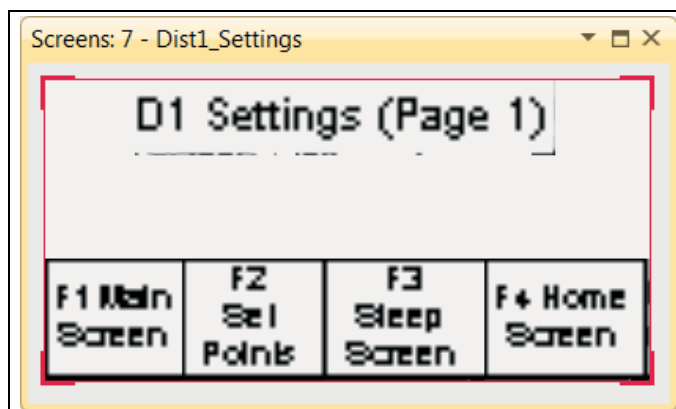

Figure 5S
5. After pressing **F3**, the screen will appear as in Figure 5S. Press **F2** Select Points.